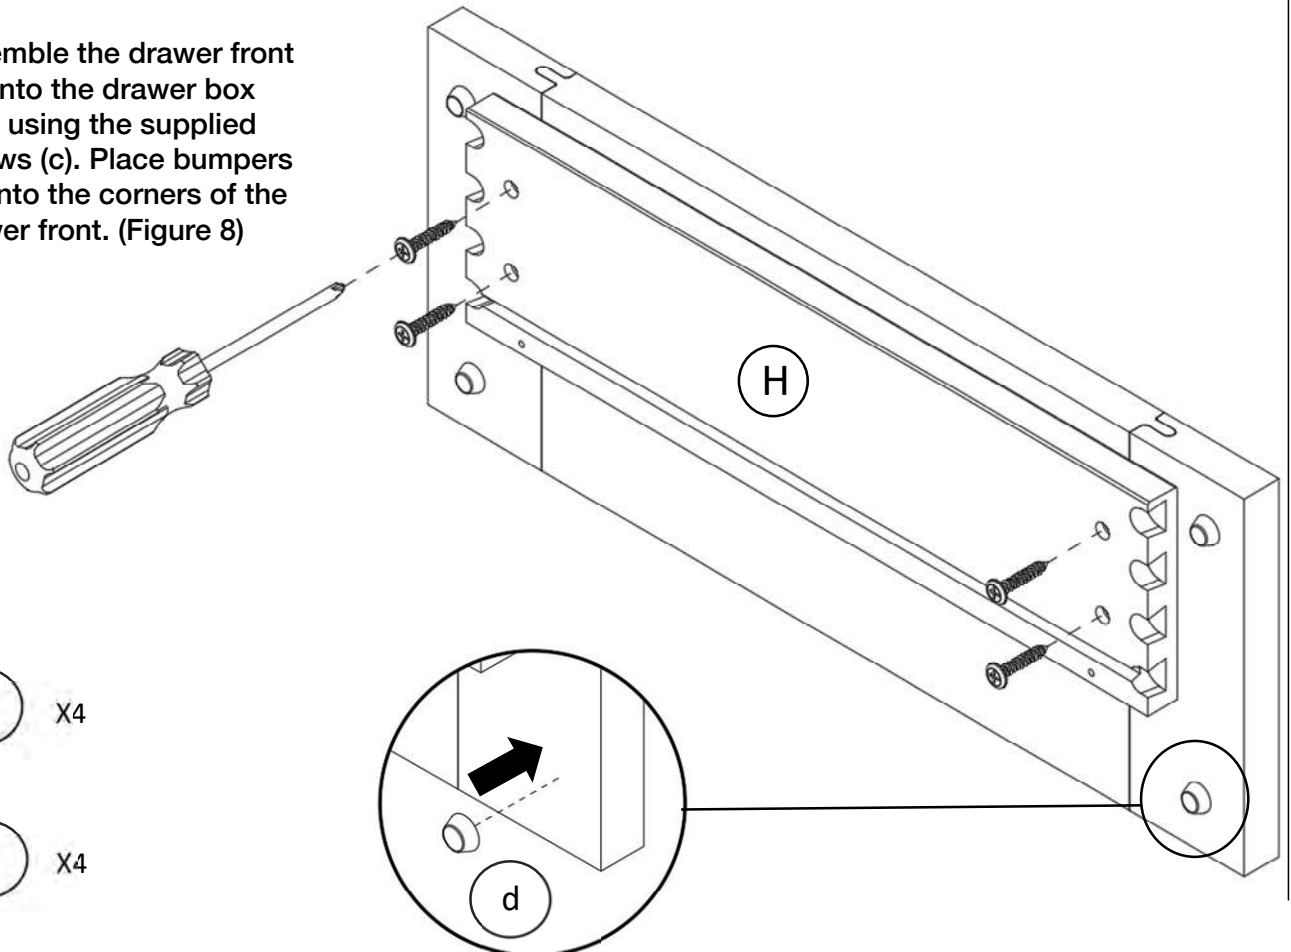

Figure 8
Assemble the drawer front (H) onto the drawer box front using the supplied screws (c). Place bumpers (d) onto the corners of the drawer front. (Figure 8)